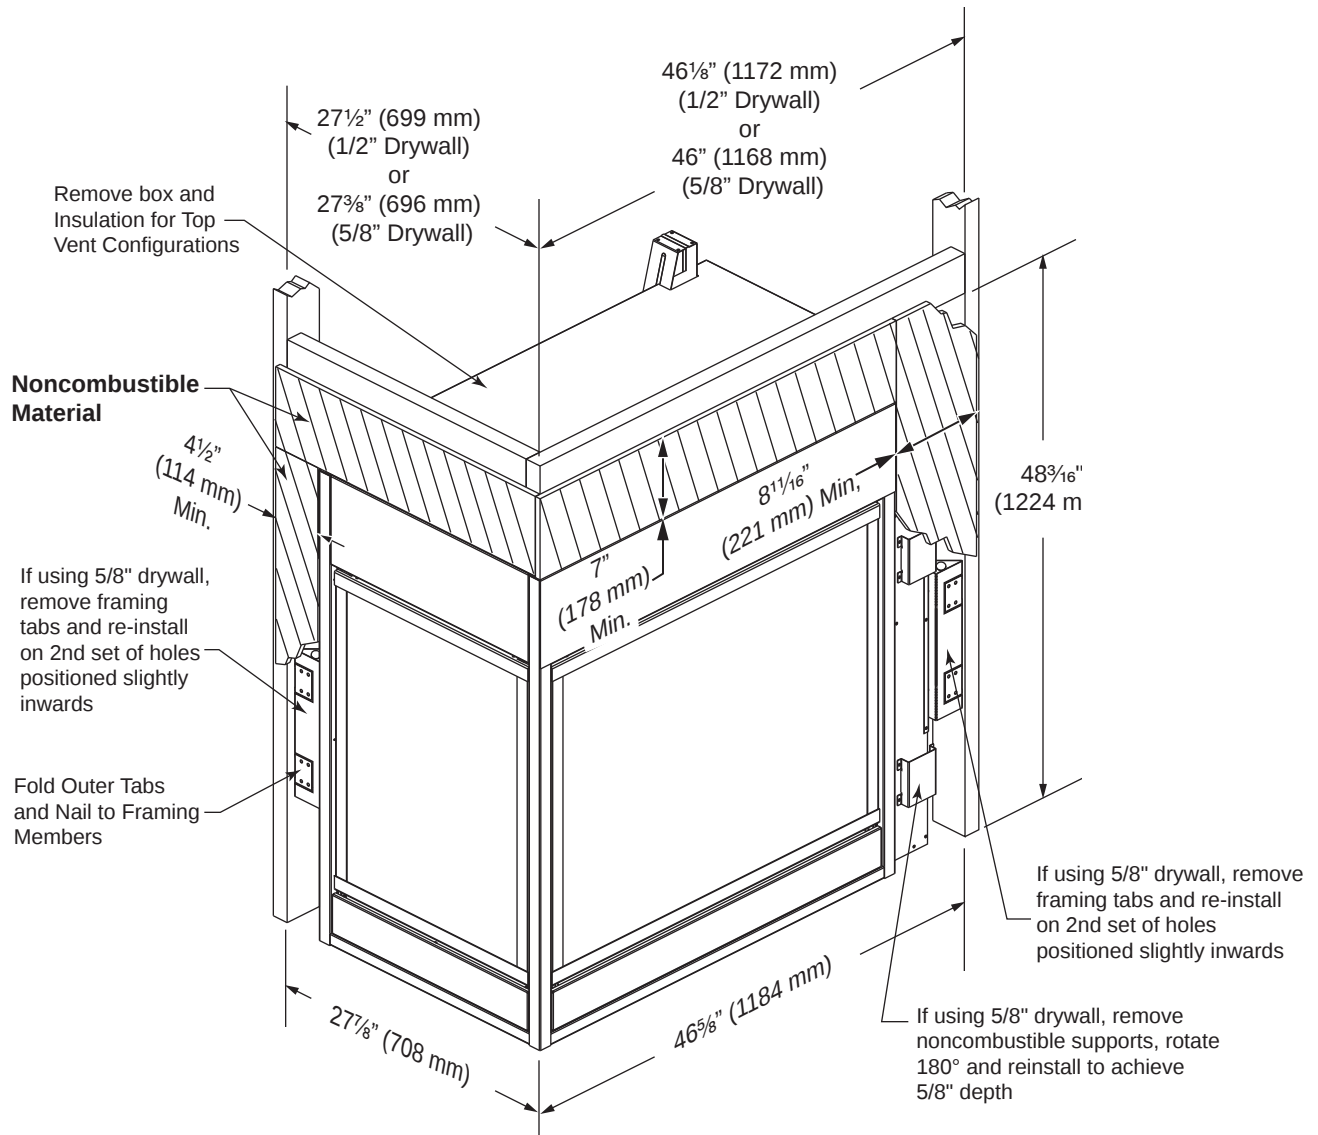

Figure 6 -
The fireplace must be secured to the floor and/or to framing studs as shown in Figure 6 . Use four (4) wood screws or masonry/ concrete screws to secure fireplace to the floor. Use four (4) screws to attach fireplace to framing. The side brackets or nailing flanges are designed to accommodate two wall boards thicknesses, 1/2" or 5/8".